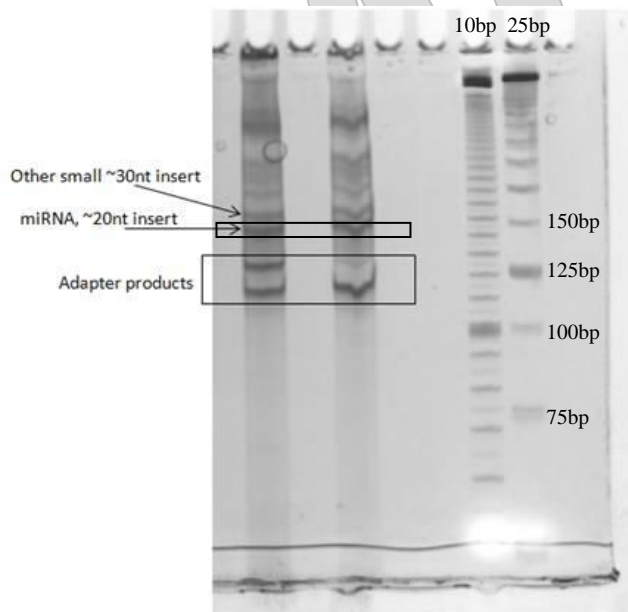

Figure 2. Polyacrylamide gel electrophoresis of a miRNA library pool.
- 9.11. Lay the Mylar sheet with the gel on top onto the Dark Reader and cut out the region containing miRNA which runs to ~150bp (See Figure 2).